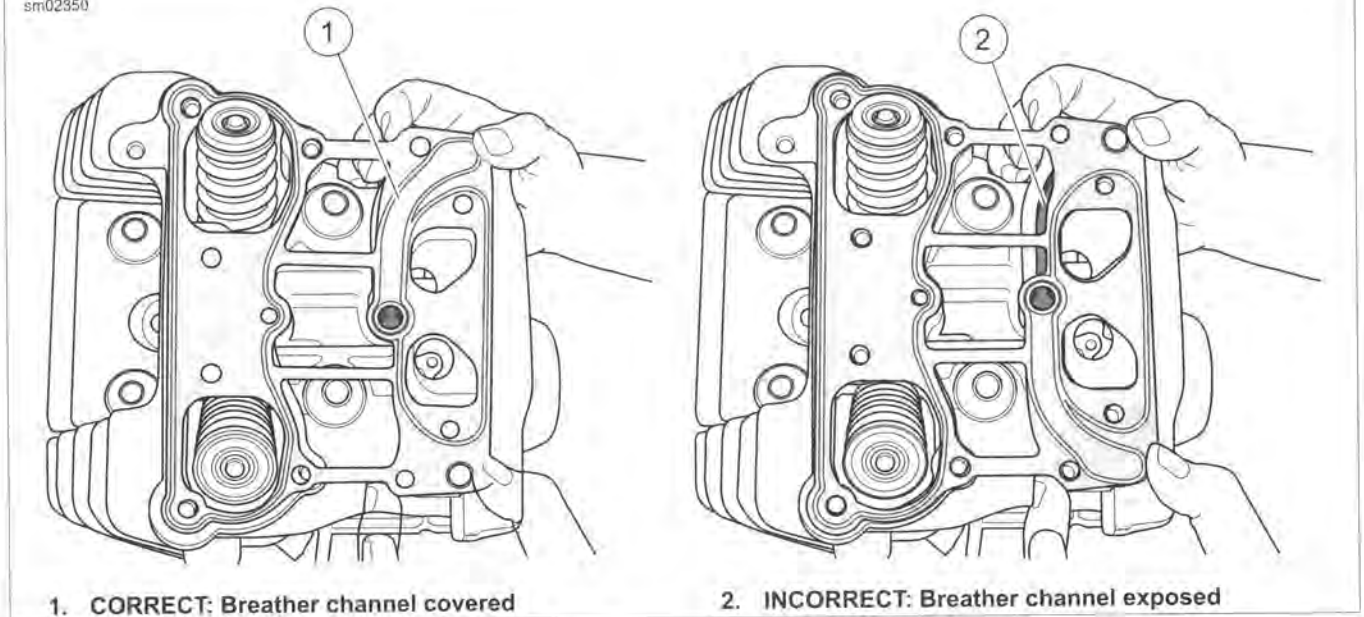

Figure 3-70. Install Rocker Housing Gasket (Rear Cylinder Shown)
9. See Figure 3-70. Install a **new** rocker housing gasket on the cylinder head. Verify that the rocker housing gasket covers the breather channel.